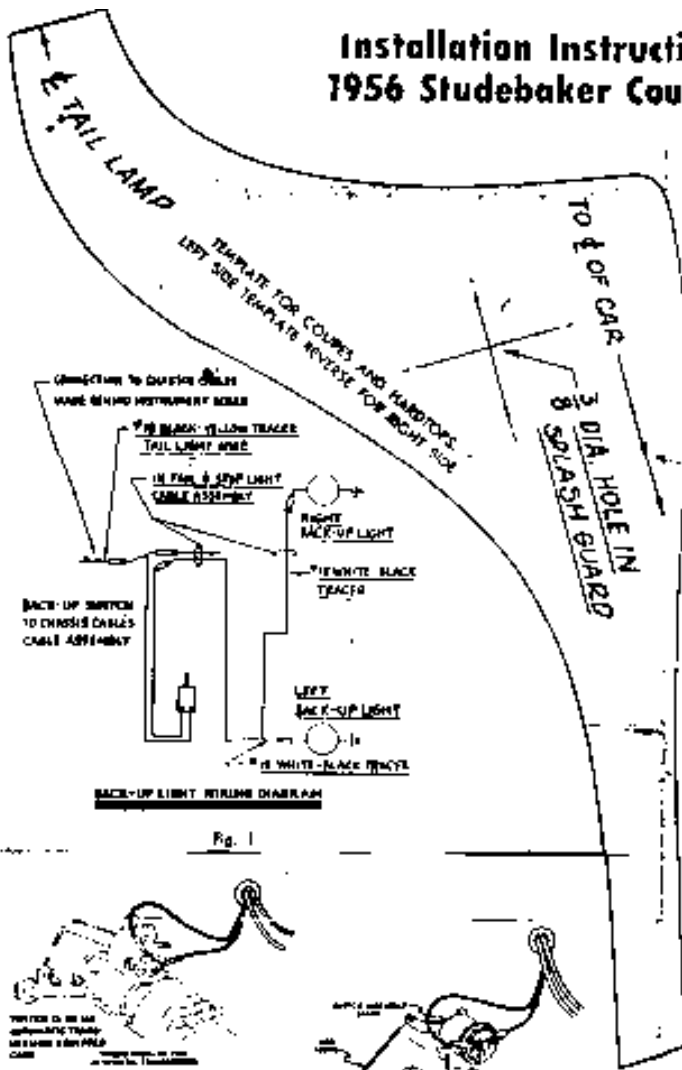

Fig. 1
2. Connect lamp wire to the white wire with black tracer at each rear corner of the frame—See Fig. 1.
4. Dress switch cable assy. through grommet with main chassis cable, Fig. 2, and connect into harness as per Fig. 1.